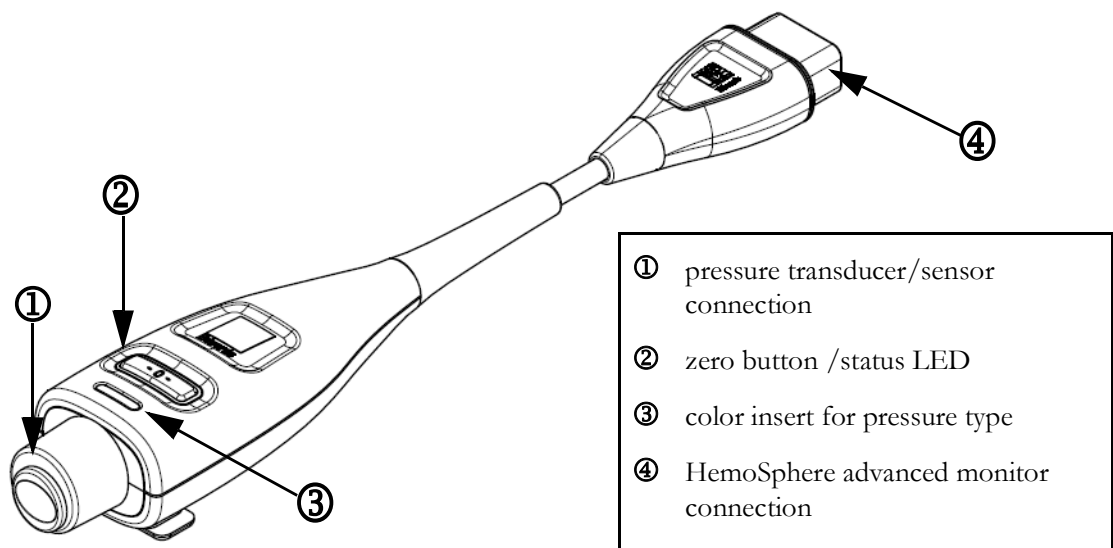

Figure 10-1 HemoSphere pressure cable
The HemoSphere pressure cable is a reusable device that connects with the HemoSphere monitor on one end ④ and any approved single Edwards disposable pressure transducer (DPT) or sensor on the other end ①. See figure 10-1 on page 168. The HemoSphere pressure cable acquires and processes a single pressure signal from a compatible Edwards DPT, such as the TruWave DPT, or a FloTrac sensor. A FloTrac or Acumen IQ sensor connects to an existing arterial catheter to provide minimally invasive hemodynamic parameters. A TruWave transducer can connect to any compatible pressure monitoring catheter to provide location based intravascular pressure. Refer to the directions for use provided with each catheter for specific instructions on catheter placement and use, and for relevant warnings, cautions and notes. The HemoSphere pressure cable can be monitored through two technology monitoring modes based on the paired sensor/transducer: **FloTrac** or **Acumen IQ** sensor monitoring mode or **Swan-Ganz** catheter monitoring mode. The monitoring mode appears on the top of the navigation bar (see figure 5-2 on page 86). The appearance and connection points for the HemoSphere pressure cable are shown in figure 10-1.
Pressure Type Color Insert. If desired, the appropriate color insert can be used on the pressure cable to indicate the monitored pressure type. See ③ in figure 10-1 below. The colors are as follows:
- Red for arterial pressure (AP)
- Green for cardiac output (CO)
- 7 Use a straight in or out motion to connect the green connector of the primed FloTrac sensor. The pressure cable LED that surrounds the zero button (see ② in figure 10-1) will flash green indicating that the pressure sensor is detected. A yellow light indicates a fault condition. If this occurs refer to the status bar for specific fault condition details.
Press the physical zero button  directly on the pressure cable and hold for three seconds (see figure 10-1).